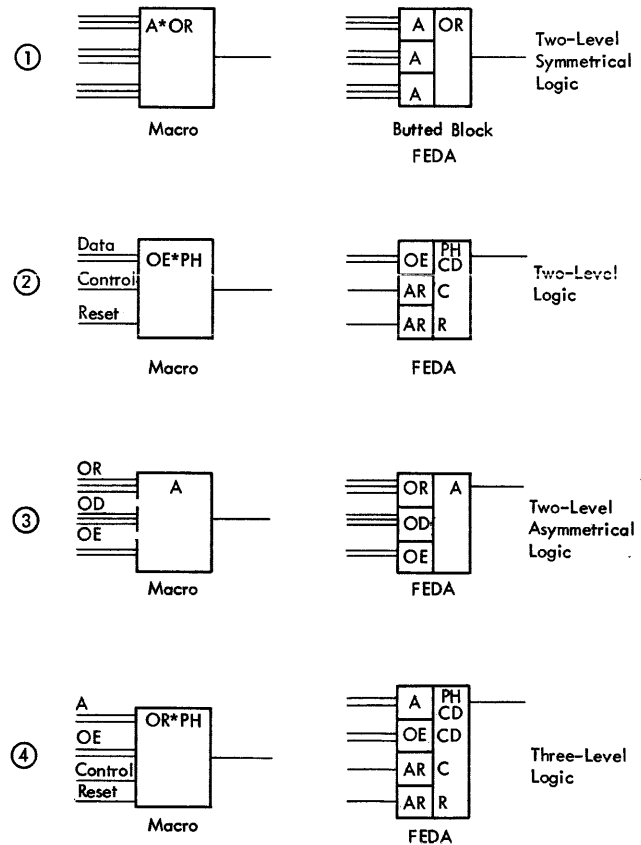

Figure 2-36. Macro-Logic Block Examples
Engineering ALD's can contain macro-logic blocks, which are equivalent to butted logic blocks on FEALD's. Macro logic is composed of unit logic (AND/OR/FF) in various combinations to depict multiple logical functions in one macro-logic block. Figure 2-36 shows several examples of macro logic, from simple to complex, and their logical
3. Symbols are generally inside macro-logic blocks, but may be adjacent to a block. Examples 3 and 4 of Figure 2-36 show input functions OR-AND-OD-OE external to the block.